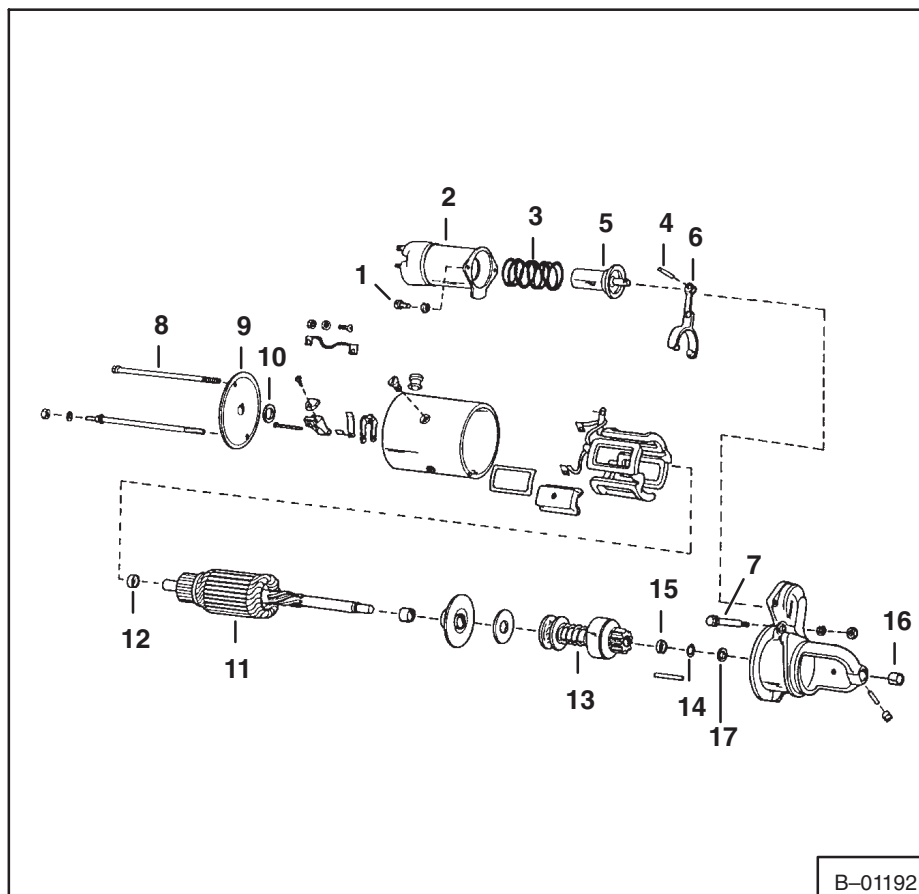

Fig. 6-29 Starter Assembly
2. Remove the solenoid bolts (Fig. 6-29, Item 1) that fasten the solenoid to the drive end of the starter.
3. Remove the solenoid (Fig. 6-29, Item 2).
4. Remove the plunger spring (Fig. 6-29, Item 3).
5. Remove the pin (Fig. 6-29, Item 4) and remove the plunger (Fig. 6-29, Item 5) from the shift fork (Fig. 6-29, Item 6).
**NOTE: The plunger (Fig. 6-29, Item 5) must also be replaced if the solenoid (Fig. 6-29, Item 2) is replaced.**
6. Remove the bolt (Fig. 6-29, Item 7) for the shift fork pivot from the housing.
7. Remove the bolts (Fig. 6-29, Item 8) from the end cap (Fig. 6-29, Item 9).
8. Remove the shim washer (Fig. 6-29, Item 10) from the armature (Fig. 6-29, Item 11) shaft at the commutator end.
9. Remove the shift fork (Fig. 6-29, Item 6) from the drive end housing.
10. Remove the armature with the internal thrust washer (Fig. 6-29, Item 12) and the drive assembly (Fig. 6-29, Item 13), through the drive end of the starter frame.
11. Remove the thrust washer (Fig. 6-29, Item 12), from the commutator end of the armature shaft.
12. Remove the drive stop ring (Fig. 6-29, Item 14), thrust collar (Fig. 2-29, Item 15) and move the drive assembly off the armature shaft.